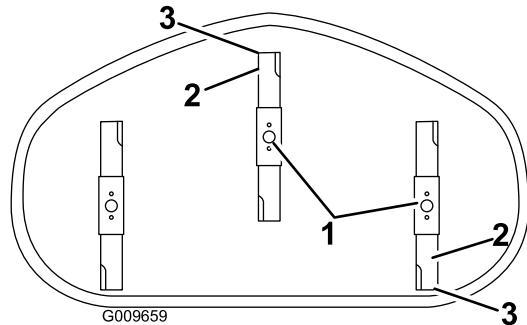

Figure 62
4. Carefully rotate the blades so they are facing front to rear (Figure 62).
5. Measure from the tip of the front blade to the flat surface and the tip of the rear blade to the flat surface (Figure 62). If the front blade tip is not 1.6-7.9 mm (1/16-5/16 inch) lower than the rear blade tip, adjust the front locknut.
8. After adjustment, check the front-to-rear slope again. Continue adjusting the nut until the front blade tip is 1.6-7.9 mm (1/16-5/16 inch) lower than the rear blade tip (Figure 62).